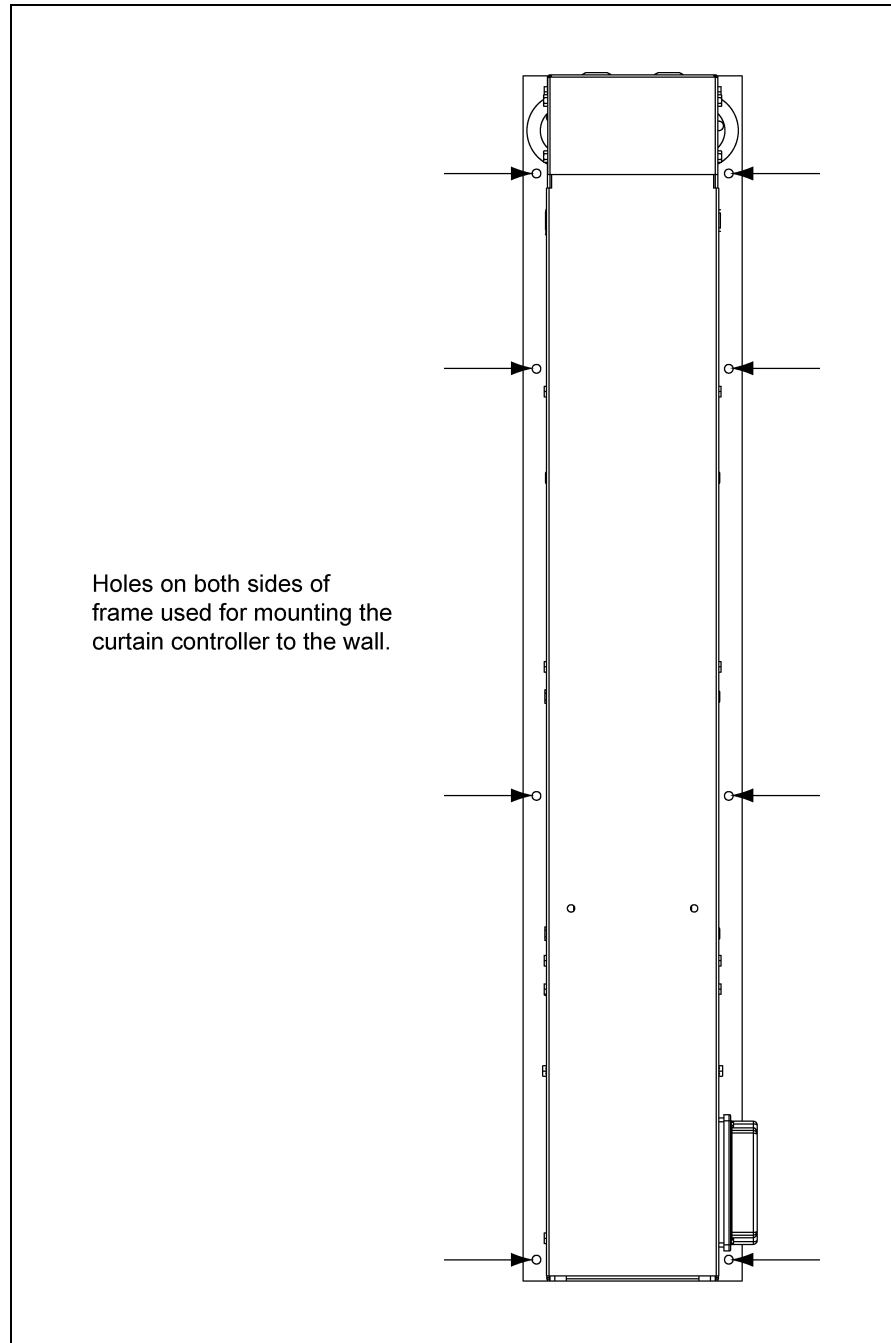

Figure 3C
5. Secure the machine to the wall by using the six (6) 3/8" x 2" lag bolts provided. (See Figure 3C.)